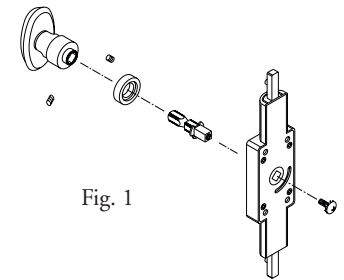

Fig. 1
4. Assemble the spindle and knob (lever) on the lock as follows (see Fig. 1). Slide washer onto knob (lever). Slide/thread spindle fully onto knob (lever), fasten with set screw(s). Slide spindle through lock and fasten with machine screw.